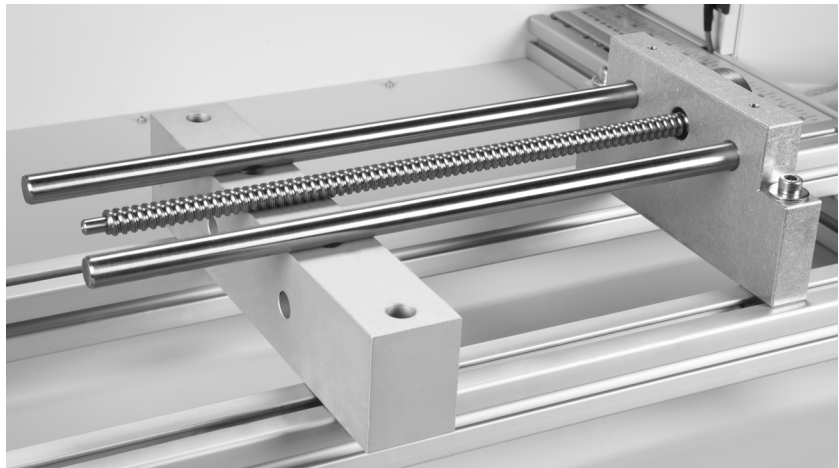

Figure 23: Ball screw with the supporting 29 cm riser.
2. Place a 29 cm riser on the two extrusions, about 10 cm from the tip of the shafts, as shown in Figure 23. Do not screw this riser in place. It is only used to support the ball screw and prevent any bending damage while you perform this exercise.